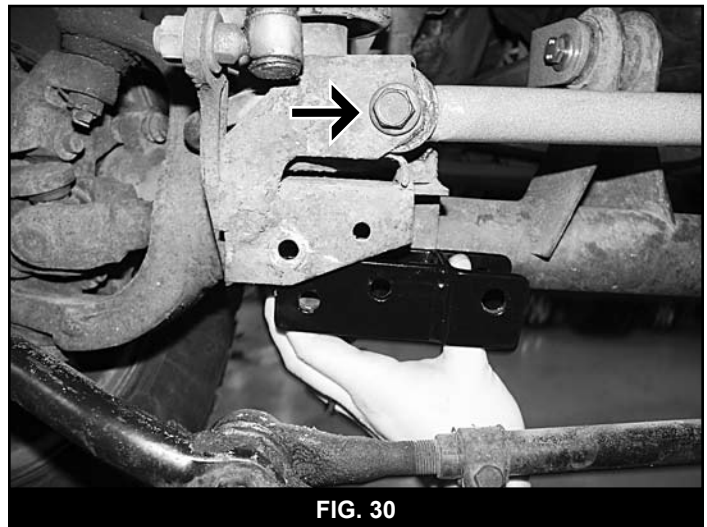

FIG. 30
75. Install the new track bar assembly to the original steering stabilizer axle mount with the original stabilizer hardware so the track bar runs up toward the OE frame mount (Fig 30). Leave hardware loose. The frame end will be attached at the end of the installation.
78. Install the provided steering stabilizer bracket (01543) in the original track bar mount and fasten with the OE track bar bolt and nut tab (Fig 30). Leave loose.